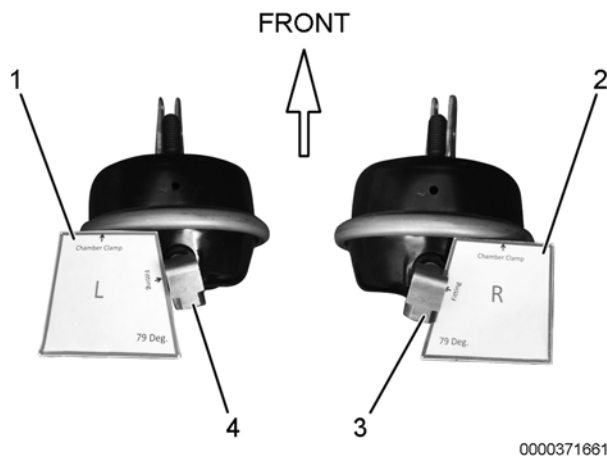

Figure 1. Brake Chamber Fitting Orientation.
6. Using the Fitting Orientation Template (Figure 1, Items 1 and 2), inspect the 90-degree fitting (Figure 1, Items 3 and 4) for correct orientation of 11 degrees toward the inboard side of the service chambers and verify the